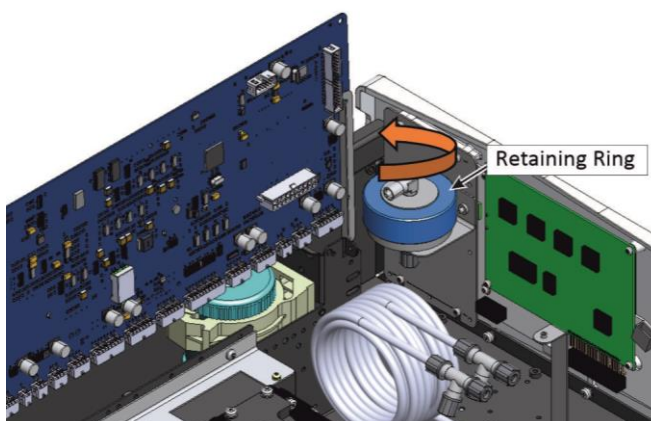

Figure 127 – Remove Retaining Ring
4. Refer to Figure 127. Remove the retaining ring by turning it counter-clockwise.